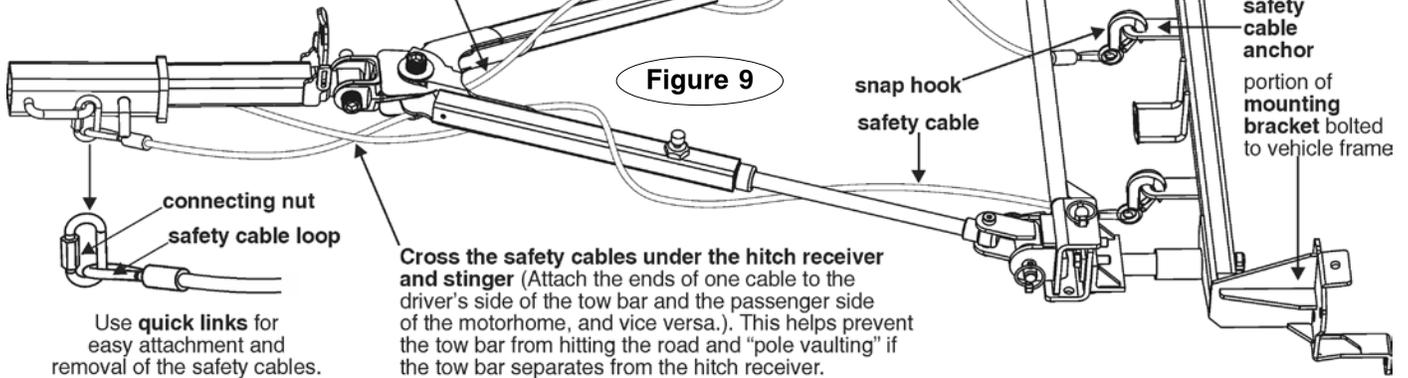

Figure 9
- Always cross the cables under the hitch receiver, as shown in Figure 9 under “Proper installation of safety cables.” In the unlikely event the tow bar separates from the motorhome, crossing the cables will help prevent the tow bar from dragging on the ground, which can cause the tow bar to “pole vault” the towed vehicle.
- Wind the safety cables around the tow bar arms and cross the safety cables under the hitch receiver, as shown in Figure 9.
If the tow bar mounting bracket is similar to the one shown in Figure 9 and the safety cables are long enough, connect the **snap hook** (or **quick link**) to the **safety cable anchor** built into the mounting bracket.